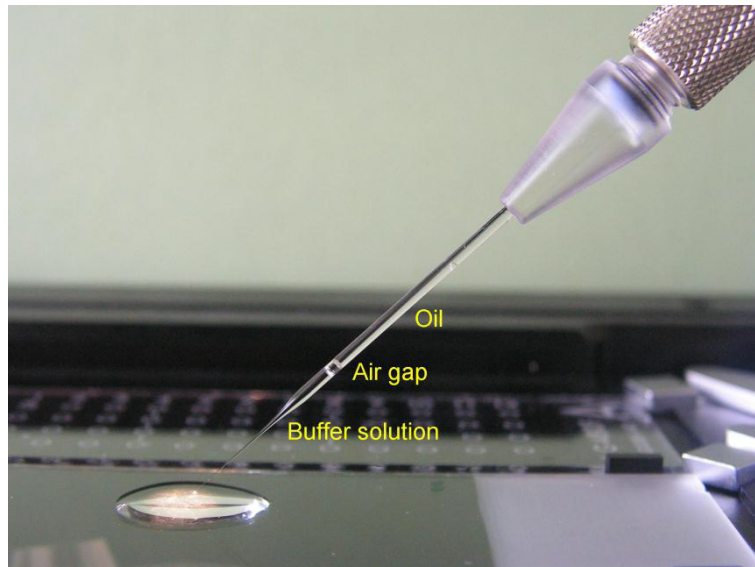

Figure 6.11: Pump in the buffer solution up to the moment the air gap between it and the oil moves into the transparent part of the grip head.
4. Pump in the buffer solution up to the moment the air gap between it and the oil moves into the transparent part of the grip head, see Fig. 6.11.